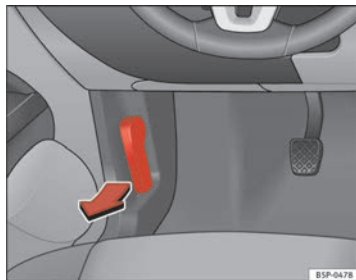

Fig. 161 Detail of footwell area on driver side: lever for unlocking the bonnet.
- To release the bonnet, pull the lever under the dash panel ⇒ fig. 161 in the direction indicated (arrow). The bonnet will be released by a spring action ⇒ .